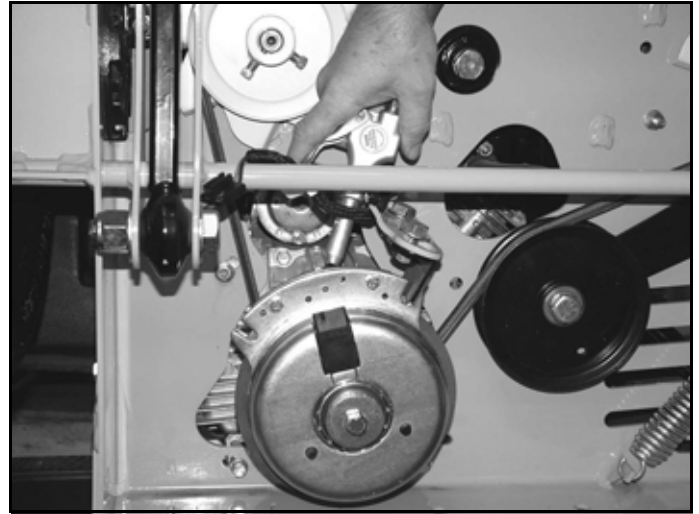

Figure 4-19
With engine off, key removed and clutch disengaged and using a pneumatic line, blow out any debris from under the brake pole and around the aluminum spacers. Figure 4-19
3. Using a pneumatic line, blow out any debris from under the brake pole and around the aluminum spacers. Figure 4-19